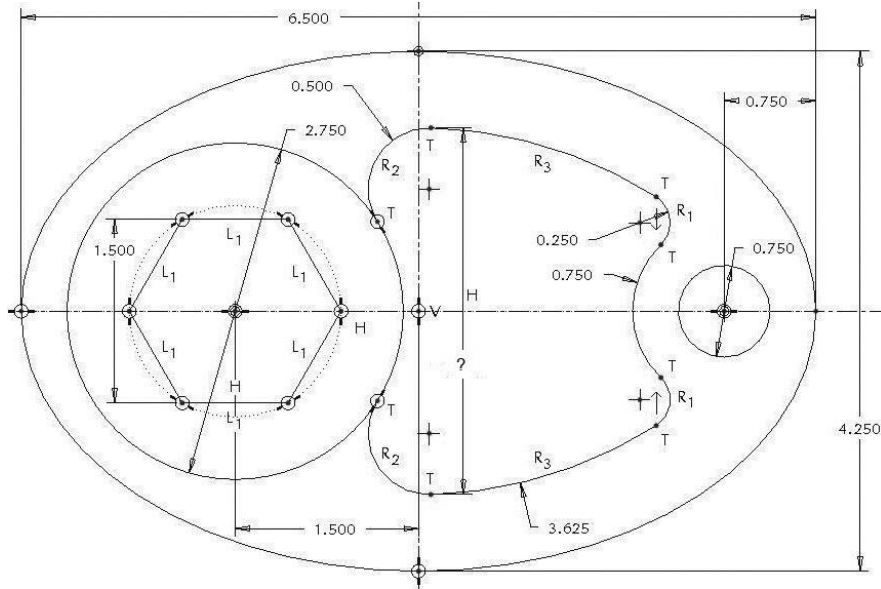

Figure 3-72 Problem 3
3.3 Draw the front view of special cam127 (Figure 3-72). **Design Intent**—The cam must be a symmetrical ellipse (draw centerlines). The hexagonal shaped hole must be 1.500 inches from the geometric center of the cam. The cutout and small hole are for mass reduction only. Mating arcs are tangent. What is the maximum height of the circular arc cutout?